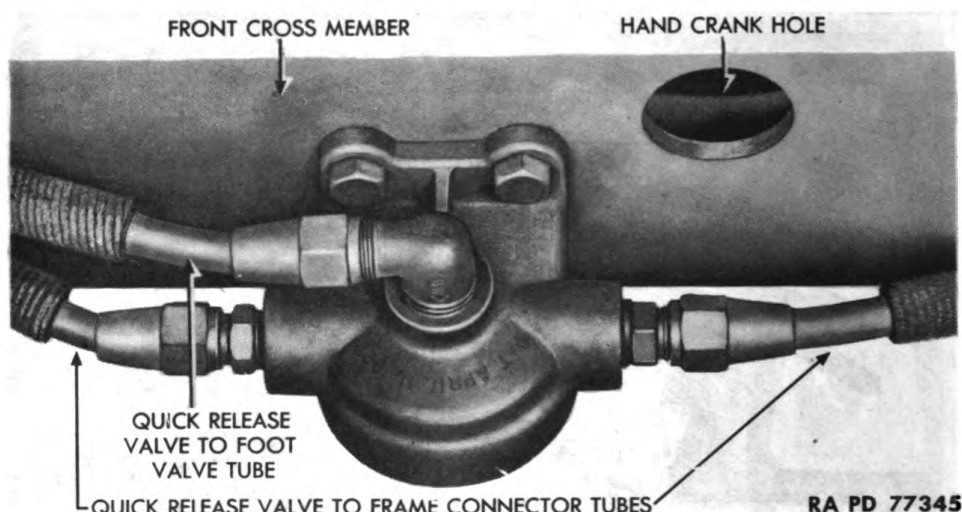

Figure 76 - Quick Release Valve Installed
(1) **DESCRIPTION** (fig. 76). A quick release valve is bolted to the under side of the main frame front cross rail. It is located directly under the center of the radiator. This valve is connected in the line from the foot control valve to the brake diaphragm chambers for the front wheel brakes. The valve speeds up front wheel brake release by venting exhaust air to the atmosphere.
(2) TABULATED DATA.
b. Removal (fig. 76). Disconnect all three air tubes from valve. Remove two nuts, lock washers and bolts which secure valve to frame. Lift valve from frame.
c. Installation (fig. 76). Place valve in position on frame front cross rail. Install two bolts, lock washers, and nuts which attach valve to frame. Connect quick release valve to foot valve tube to top fitting on valve. Connect quick release valve to frame connector tubes to fittings on the sides of the valve. Start engine and build up 105-pound air pressure. Apply brakes and inspect valve for leakage. Satisfactory brake application and absence of leakage indicate proper installation.